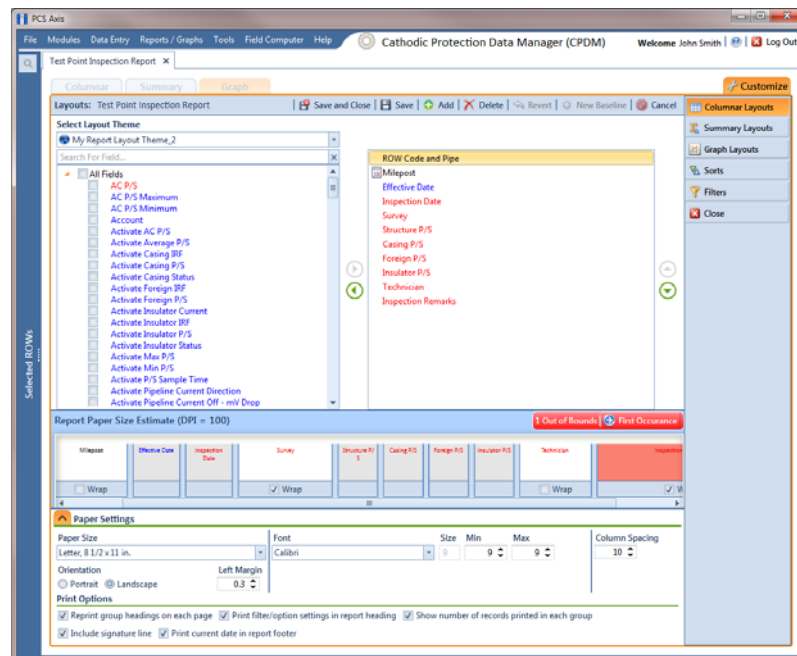

Figure 14-32. Columnar Layouts
- 8 Complete the following steps to add and remove fields in the report layout theme as needed (Figure 14-32, page 569):
- 10 Click  **Paper Settings** to open the property settings panel (Figure 14-32).
- a Place the mouse over a column boundary to change the cursor to a horizontal resize cursor  (Figure 14-32).